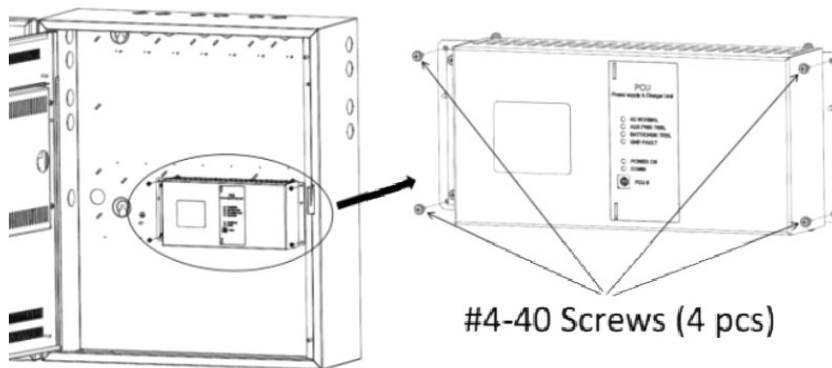

Figure 1. FW397 Installation on the FW106
- 2) Mount FW397 onto the backbox of the FW106 Panel see Figure 1.